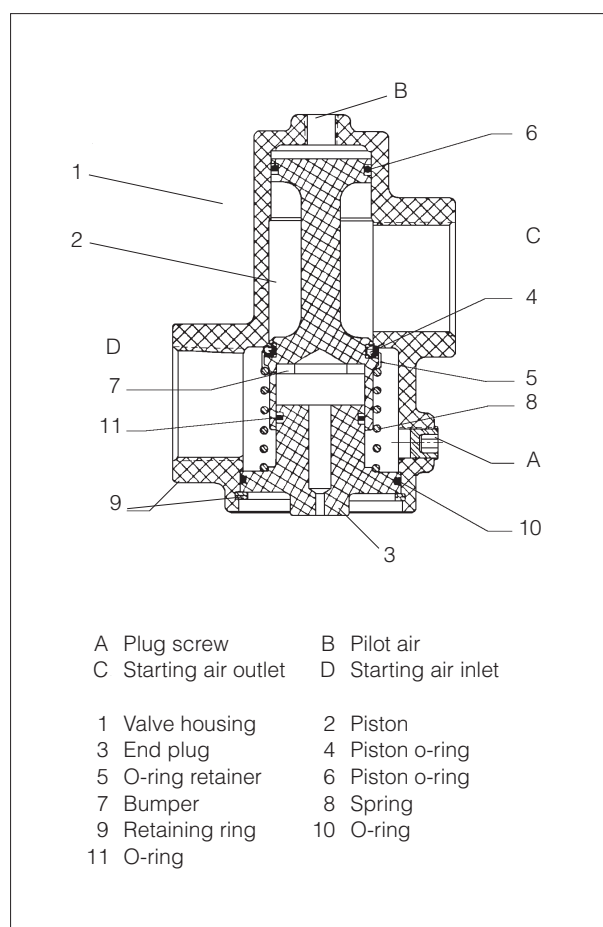

Fig. 1. Main starting valve.
- 2) Remove the plug screw (A) , see fig. 1. and squirt about 30 g of 10 w oil into the valve through the plug opening.